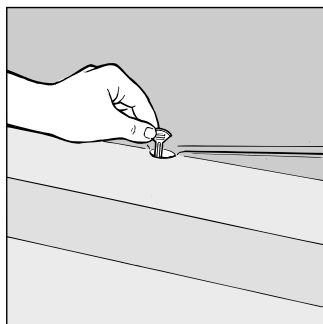

Fig. 2
Clean the defrost water drain hole periodically (fig. 2). This will prevent the water collecting on the bottom of the refrigerator instead of flowing out.
- The defrost drain is clear from any blockage (see fig.2).